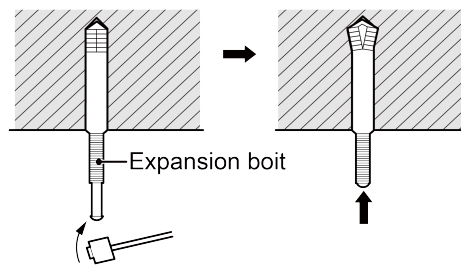

Fig.4.1.6
- (2) Insert the expansion bolt M10 into the hole and then drive the iron nail into the bolt, as shown in Fig.4.1.6.